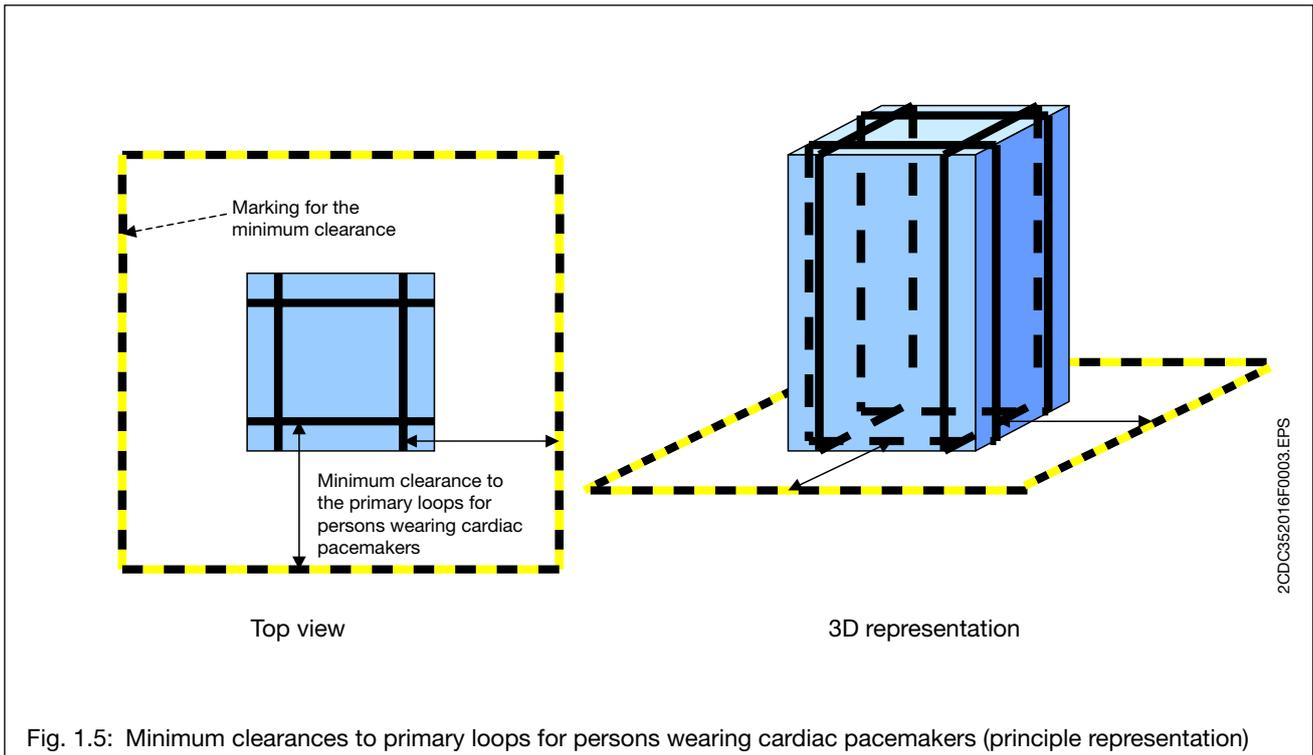

Fig. 1.5: Minimum clearances to primary loops for persons wearing cardiac pacemakers (principle representation)
- Persons with cardiac pacemakers have to observe minimum clearances to the primary loops. Refer to the explanations below and fig. 1.5.
If the machine/installation does not have a fence around it to determine this distance (for minimum distances please refer to the following table and fig. 1.5), a black-yellow line has to be attached to the floor in order to make the distance clear.
- In order to avoid inadmissible contact voltages at those interrupted ring constructions in the immediate neighborhood of a primary loop, the area of the ring construction must have a minimum clearance of 30 mm to the nearest primary loop area, if the relevant area is not larger than 9 m² (see fig. 1.5). For larger primary loops up to 18 m² this distance has to be increased linearly up to 120 mm.